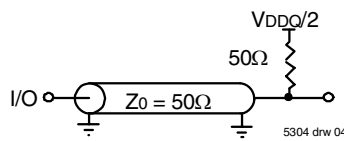

Figure 1. AC Test Load
| AC Test Load                   | See Figure 1 |
- These parameters are guaranteed with the AC load (Figure 1) by device characterization. They are not production tested.